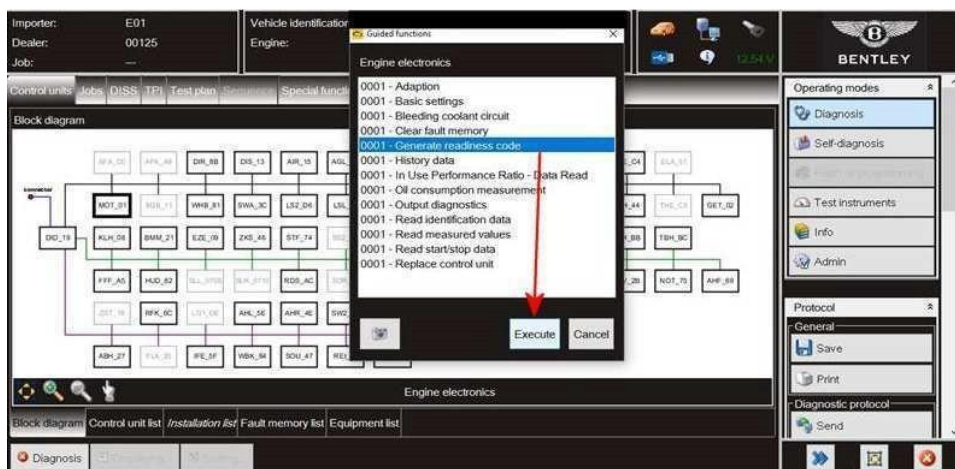

Figure 1
- Referring to Figure 1 - Select Guided functions from 01 - Engine Control Module 1